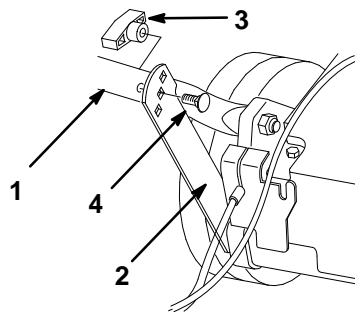

Figure 4
2. Swing the lower handle back and the support brackets up, aligning the brackets with the holes in the handle (Fig. 4).
3. Secure the handle to the support brackets with the two flat handle bolts and two knobs, using the height adjustment holes on the brackets that best suit your height requirements (Fig. 4).